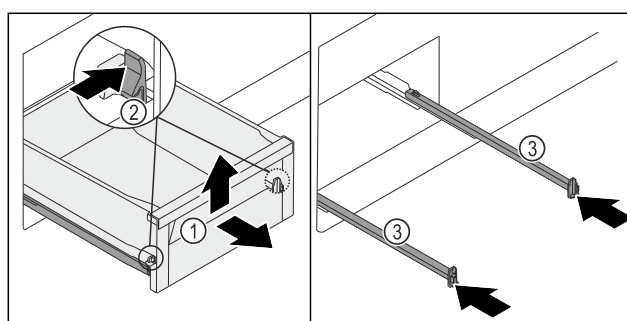

Fig. 122
- ▶ Pull out the drawer Fig. 122 (1) as far as it will go.
- ▶ Press the left and right clamp Fig. 122 (2) inward at the same time.
- ▶ The drawer Fig. 122 (1) is released from the rails.
- ▶ Lift up the drawer Fig. 122 (1) at the front.
- ▶ Remove the drawer Fig. 122 (1) from the front.
- ▶ Push in the rails Fig. 122 (3).